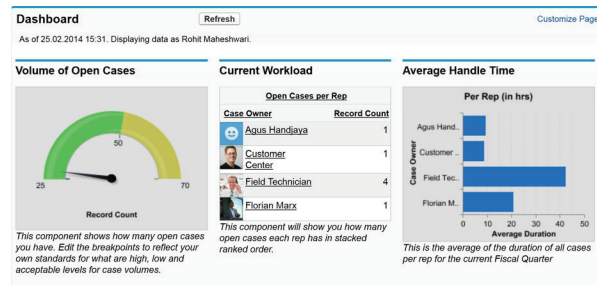

Figure 4. Field Service Engineer Availability and Average Case Handling Time
6. The administrator selects the field service engineer closest to the textile factory and opens a dashboard, shown in Figure 4, that indicates the engineer's availability.